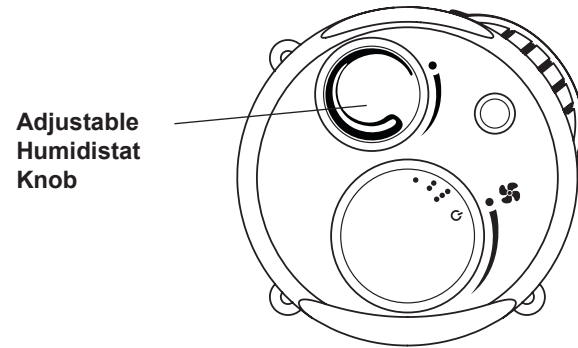

Figure 8
1. **Adjustable Humidistat** – Allows you to adjust the humidity setting. See Figure 8.